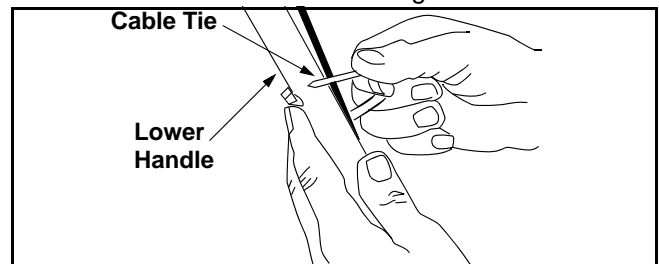

Figure 4
- Fasten the cable to the lower handle with the cable tie found on the lower handle. Pull the cable tie tight and trim off the excess. See Figure 4.